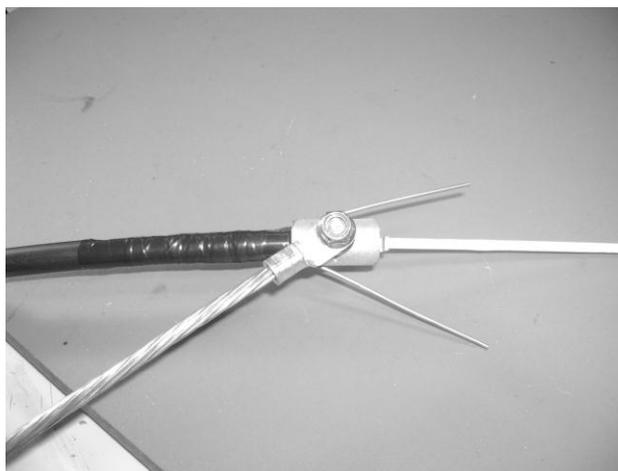

Figure 16 – Connect the bond wire to the bonding clamp.
3.8 Attach a bond wire to the stud of the bond clamp and tighten with a lock nut (Figure 16). Connect the bond wire to an approved ground as required by local practice.